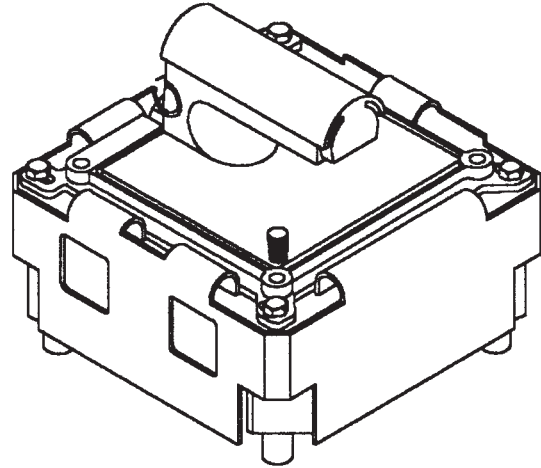

Figure 4-89. TCM Protection
12. Install the clip-on TCM cover (COTC) on the pin side of the TCM, (as shown Figure 4-89). Ensure that the P/N labels are visible through the holes.